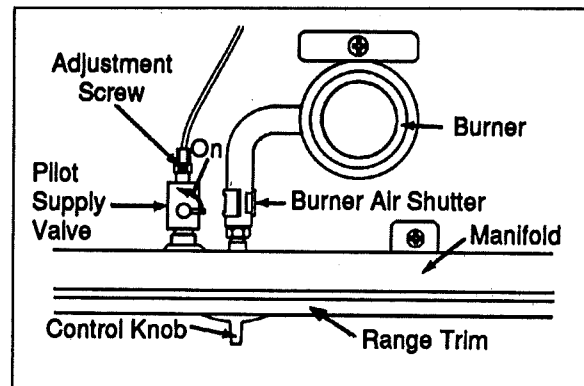

Figure 2
- d. Turn pilot supply valve on (Figure 2).
- c. Wait approximately (7) seconds and push red ignitor button.
5. Check flames on top burners and oven burner; adjust air mixture if necessary. To adjust burner flame, turn burner's air-shutter (see Figure 2) to increase air mixture until flame has yellow tips but does not lift off burner ports. Then, adjust air shutter until the yellow tips of the flame are eliminated. This will provide maximum flame efficiency without flame blow-out.